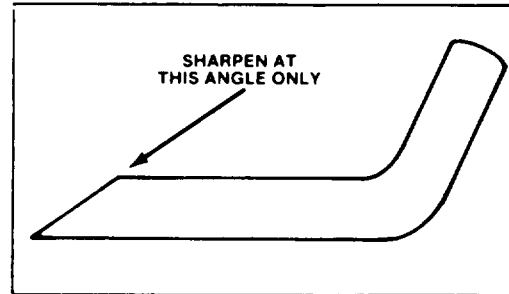

Figure 16
6. **SHARPENING BLADE** — Using a file, sharpen top side of blade and maintain original cutting angle (Fig. 16). The blade will remain balanced if same amount of material is removed from both cutting edges.